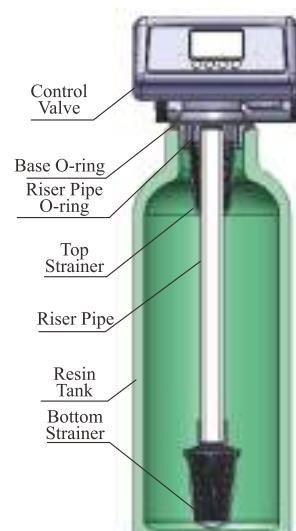

Figure 1-1
a. As the Figure 1-1 shows, select the relevant riser pipe, glue the riser pipe to the bottom strainer and put it into the mineral tank, cut off the exceeding tube out of tank top opening and round it. Plug the riser pipe in case of mineral entering.